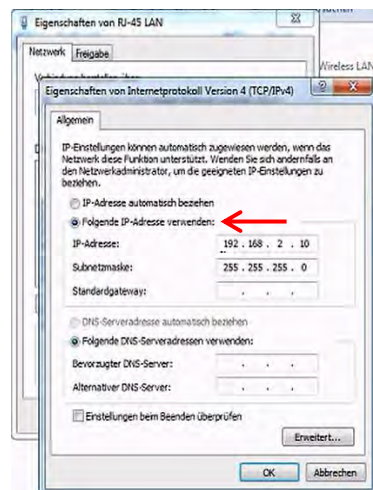

Figure 16: IP Address settings.
2. After connecting the Gateway to the laptop, go to Control Panel -> Network and Sharing Center -> Change adapter settings. Right-click on your Ethernet adapter's name and click on Properties. Choose Internet Protocol Version 4 from the list, and then click on Properties. From there, check the box next to "Use the following IP address:". Type in the IP address 192.168.2.X, where X is any number between 1 and 255, except 100, which is reserved for the Gateway. Subnet mask will be auto-filled. Click on OK to apply changes made (Figure 16).